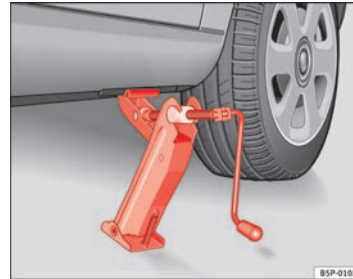

Fig. 172 Fitting the jack
- Align the jack so that the arm of the jack fits around the rib under the door sill and the movable base plate of the jack is flat on the ground ⇒ Fig. 172.